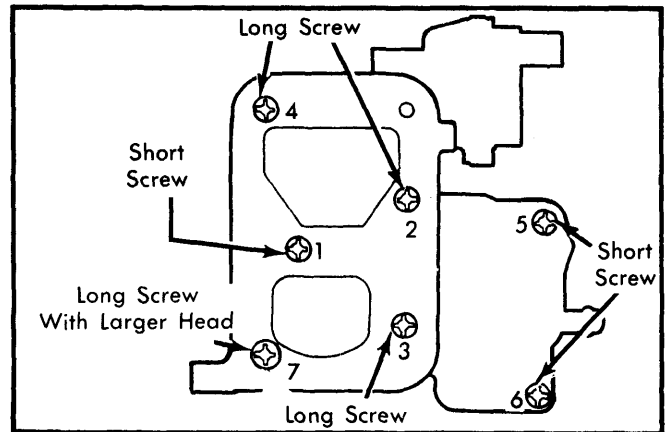

Fig. 16 Air Horn Screw Location and Tightening Sequence
7) Install air horn screws, noting location and type of screw for correct installation. Tighten screws evenly, securely and in proper sequence. See Fig. 16.